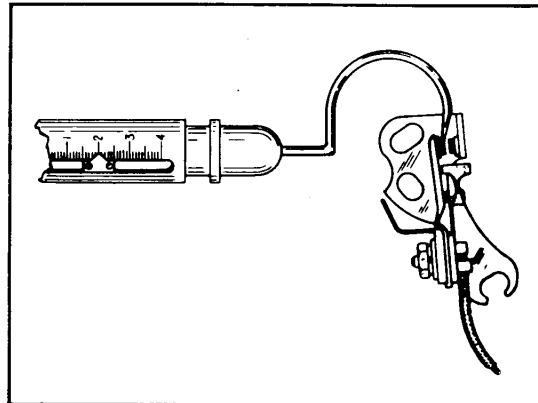

Figure 16. Checking Breaker Spring Tension
- (2) Check the tension of the breaker spring (see figure 16). Tension should be between 15 and 30 ounces for LA models, and between 10 and 18 ounces for AM units.